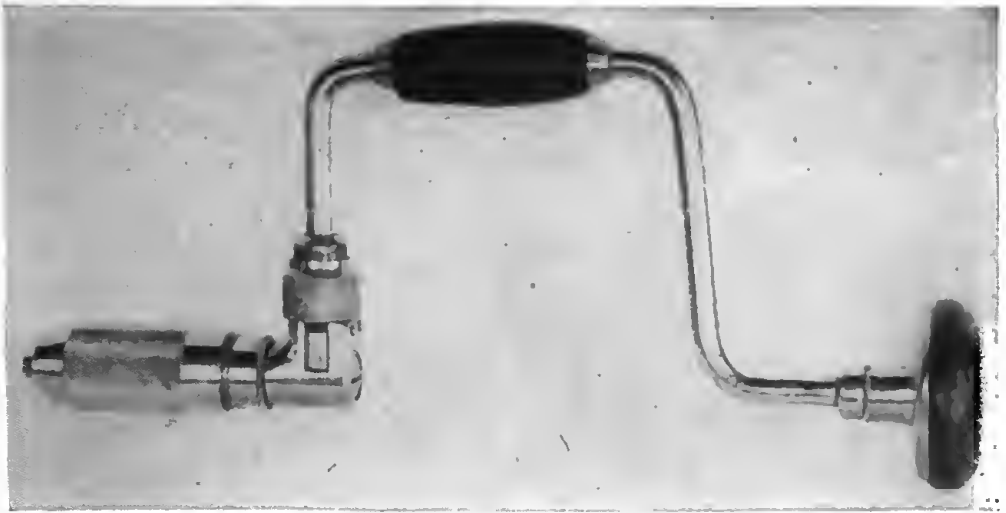

Figure 87. Brace.
(2) The carriage clamp may be used for almost any clamping job that is not too large and that does not require too much force. Its shape allows it to span obstructions near the edge of the work. The greatest limitation to the use of the carriage clamp is its tendency to spring out of shape. It should never be tightened more than handtight, or the sides of the clamp will spring out of shape and the clamp will be ruined.
b. BRACE. (1) A woodworking brace is shown in figure 87. It is used to hold the turn bits while boring holes in wood. The head and handle are usually mounted with ball bearings and should be kept lightly oiled. The chuck is the part which holds the bit. There is usually a ratchet located between the chuck and the rest of the brace to be used when working in close quarters.